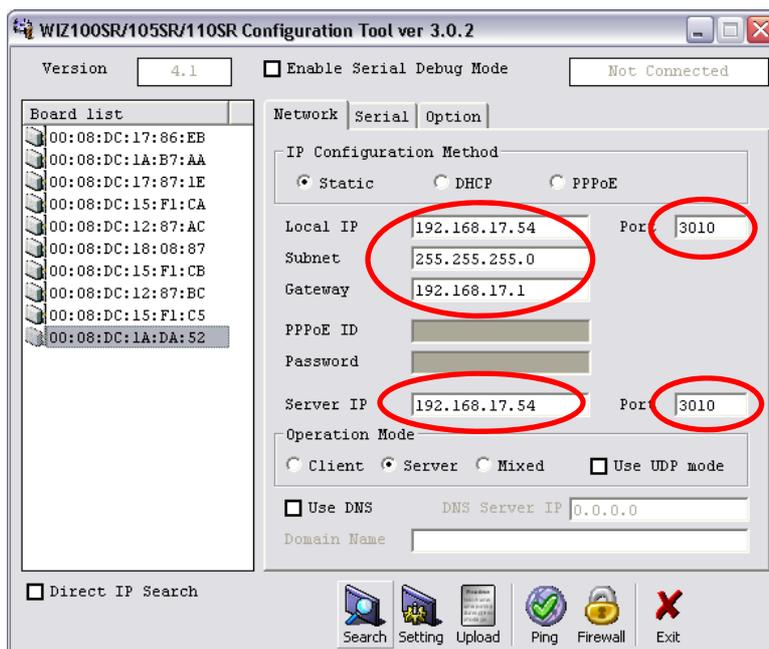

Figure 9
4. Highlight the Mac address from board list on the left. See Figure 9 below.
6. Enter values into the highlighted fields on the **Network** tab as shown in Figure 9 above.